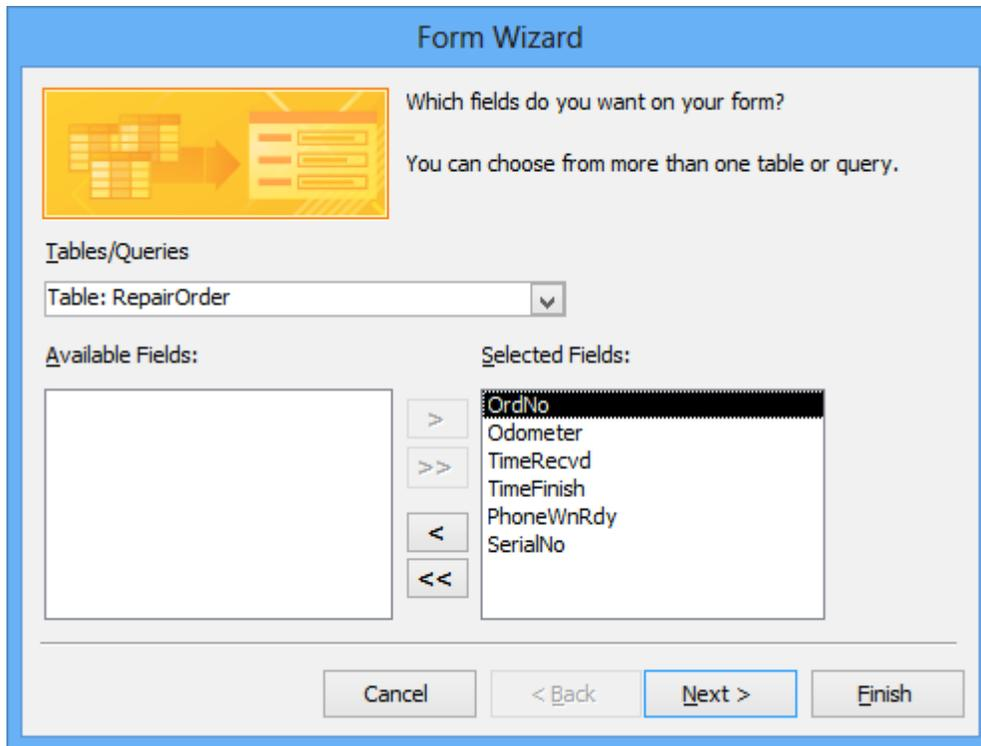

Figure 2: Initial Form Wizard Window with *RepairOrder* Table Selected
1. Open the New Form Window: Choose **Create** → **Form Wizard** in the Forms group of the Ribbon. Select the *RepairOrder* table as shown in Figure 2.